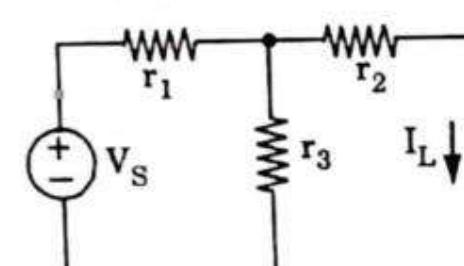
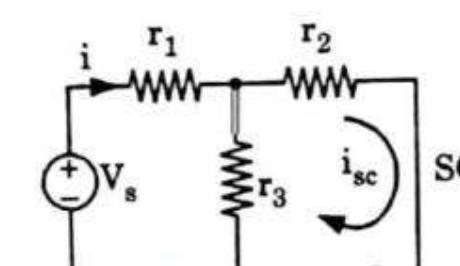

Fig. 1.18.1. A simple DC network.
Fig. 1.18.2. Finding of i_{sc} .
- In order to find the current through r_L (Fig. 1.18.1), replace r_L by short circuit [Fig. 1.18.2].